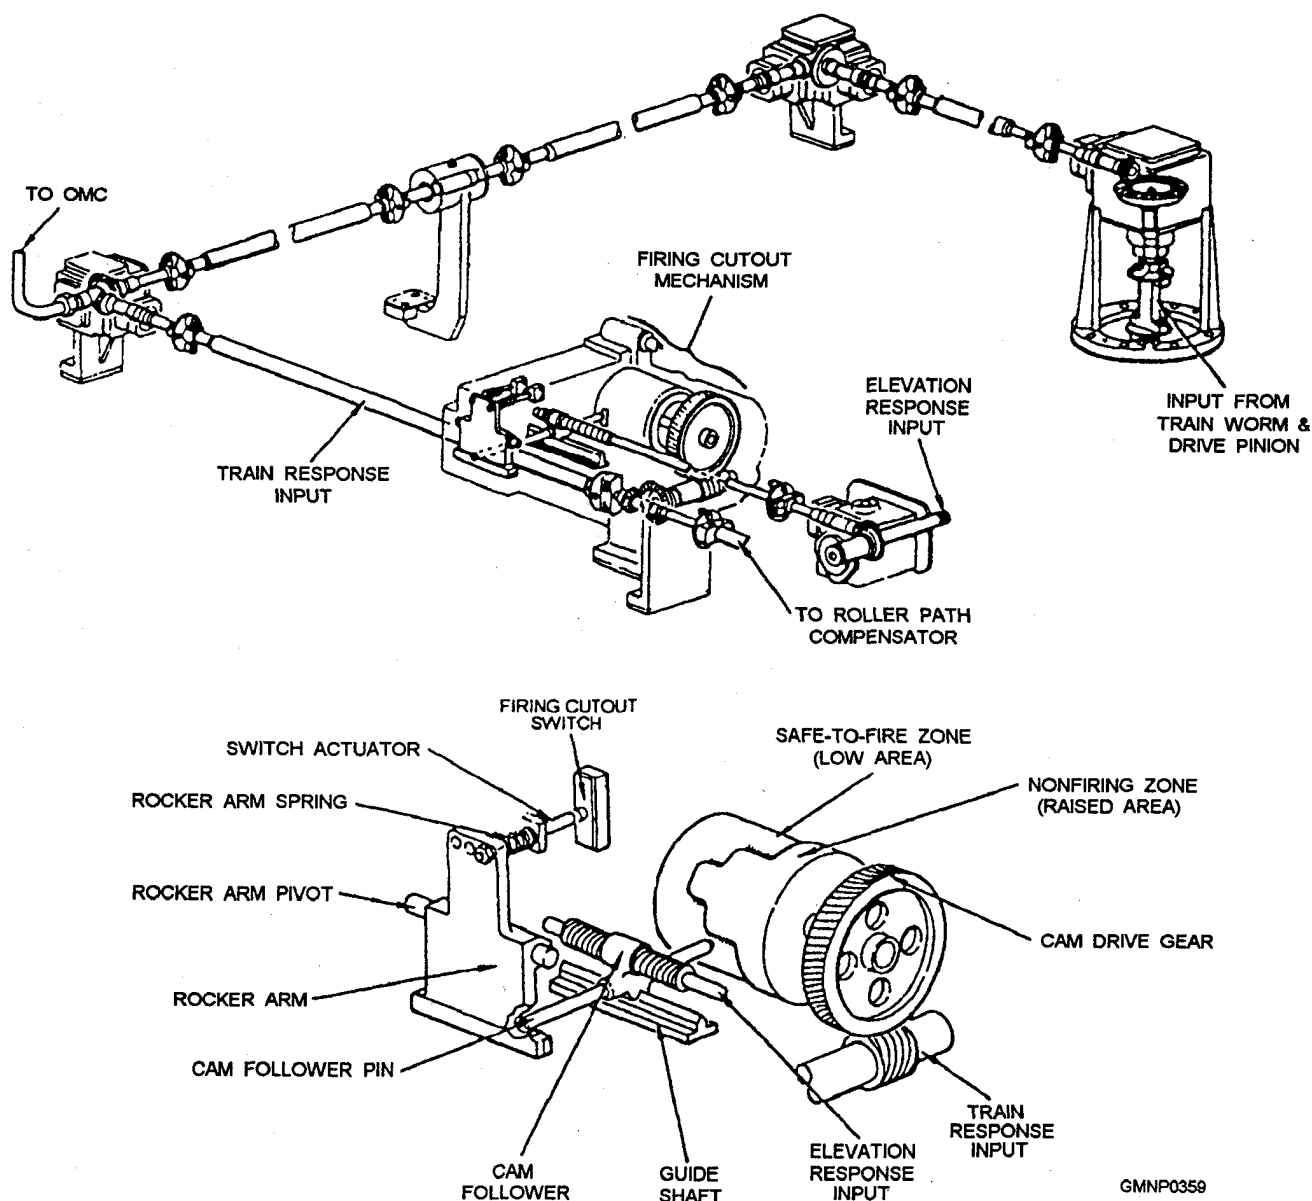

Figure 6-12.—Firing cutout mechanism, response gearing, and cam.
**Firing Cutouts**—A firing cutout mechanism interrupts firing when the gun is pointed at or near permanent ship's structure. A firing cutout is a mechanical device that monitors the gun position. Figure 6-12 shows a firing cutout mechanism. Notice the inputs from the system. The gun train position input